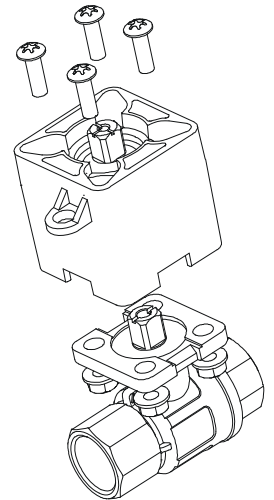

Figure 15: Installing the Barrier
3. Mount the thermal barrier onto the valve using the four included M5x16 mm machine screws and four M5 flange nuts. Tighten the screws to a recommended torque of 21 to 25 lb-in. (2.4 to 2.8 N·m) (Figure 15).